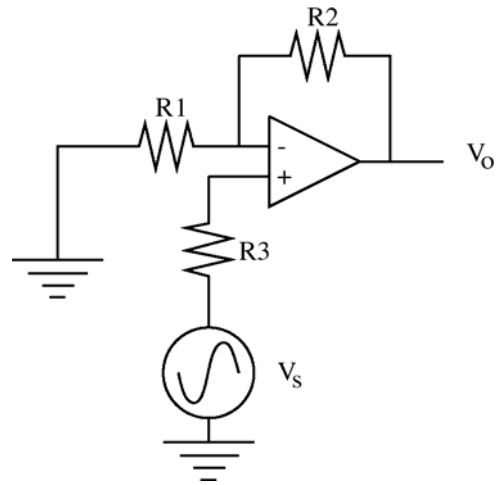

Figure 6: Non-inverting operational amplifier circuit
The basic configuration for a non-inverting amplifier is shown in Figure 6. The voltage gain for this circuit is  $1 + \frac{R_2}{R_1}$ , it will be left to you as an exercise to verify this voltage gain in your lab report.
- 1) Using the three resistors you acquired for Section 6.2, assemble the circuit shown in Figure 6.
1. Verify that the voltage gain of the circuit shown in Figure 6 is  $1 + \frac{R_2}{R_1}$ , using the same general procedures as outlined in Section 4.1. You may assume the op-amp is ideal.